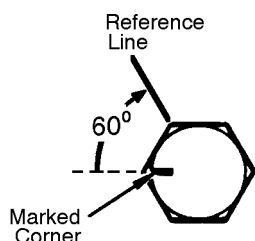

FIGURE 2-6. REFERENCE MARKS FOR 60 DEGREE ADVANCE
- For the four capscrews (1, Figure 2-3) at the upper mount, initially tighten the capscrews to **70 ft. lbs. (95 N.m)**, then advance the capscrew head 60° using steps d-1.) through d-3.). Refer to Figure 2-6.
- 1.) Mark a reference line on a corner of the hexagonal capscrew head or nut and the mounting surface opposite this corner, as shown. Then mark the position located 60° or 120° clockwise relative to the first reference line on the mounting surface. Refer to Figures 2-6 and 2-7.